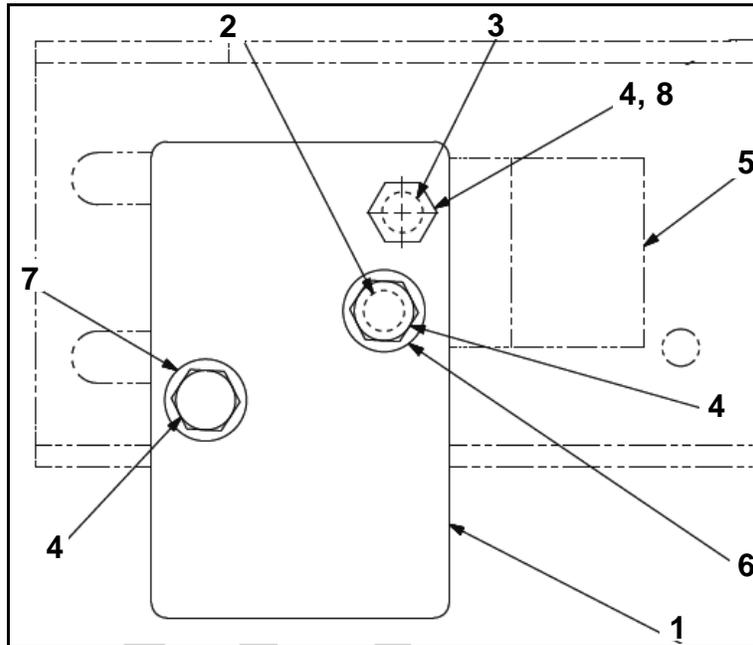

Figure 6.
10. Align the indicated hole (Item 3 in Figure 6) in plate, p/n 03-33-2834, with the existing hole in the welded bracket. Secure with hardware.
11. Using a 0.343 drill bit and the plate as a template, drill a hole through the welded bracket (Item 2 in Figure 6).